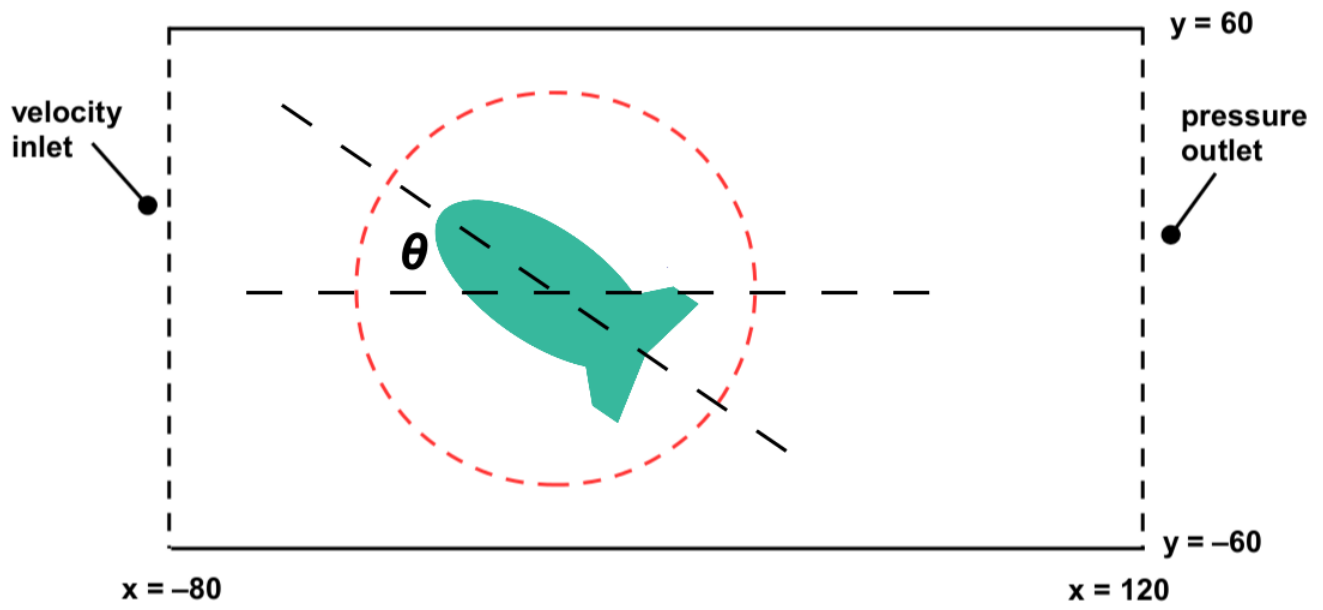

Fig. 7 Illustration of the "tilt" (by rotation around the origin) of the fish as considered in Challenge #6. The "fish" and red circle are not drawn to scale.
Consider Task 3 except that the 3-D "fish" is now tilted, forming an angle θ with the x-z plane as illustrated in Fig. 7. (Note that Fig. 7 only shows the cross section on the x-y plane while this task requires that 3-D simulations be performed.) Task 3 corresponds to the case when $\theta = 0$. Here, perform additional simulations with $\theta = 15^\circ, 30^\circ$ and 45° . The deliverables are
- (1) A description of the procedure that is used to "tilt" the fish.
- (2) Contour plots of the velocity magnitude on the x-y plane (i.e., the plane as illustrated in Fig. 7) for the three cases with $\theta = 15^\circ, 30^\circ$ and 45° .
- (3) Line plots of lift and drag on the whole "fish" as a function of θ . (Essentially, just connect the four data points of the values of lift for $\theta = 0, 15^\circ, 30^\circ$ and 45° , and similarly for the drag.)